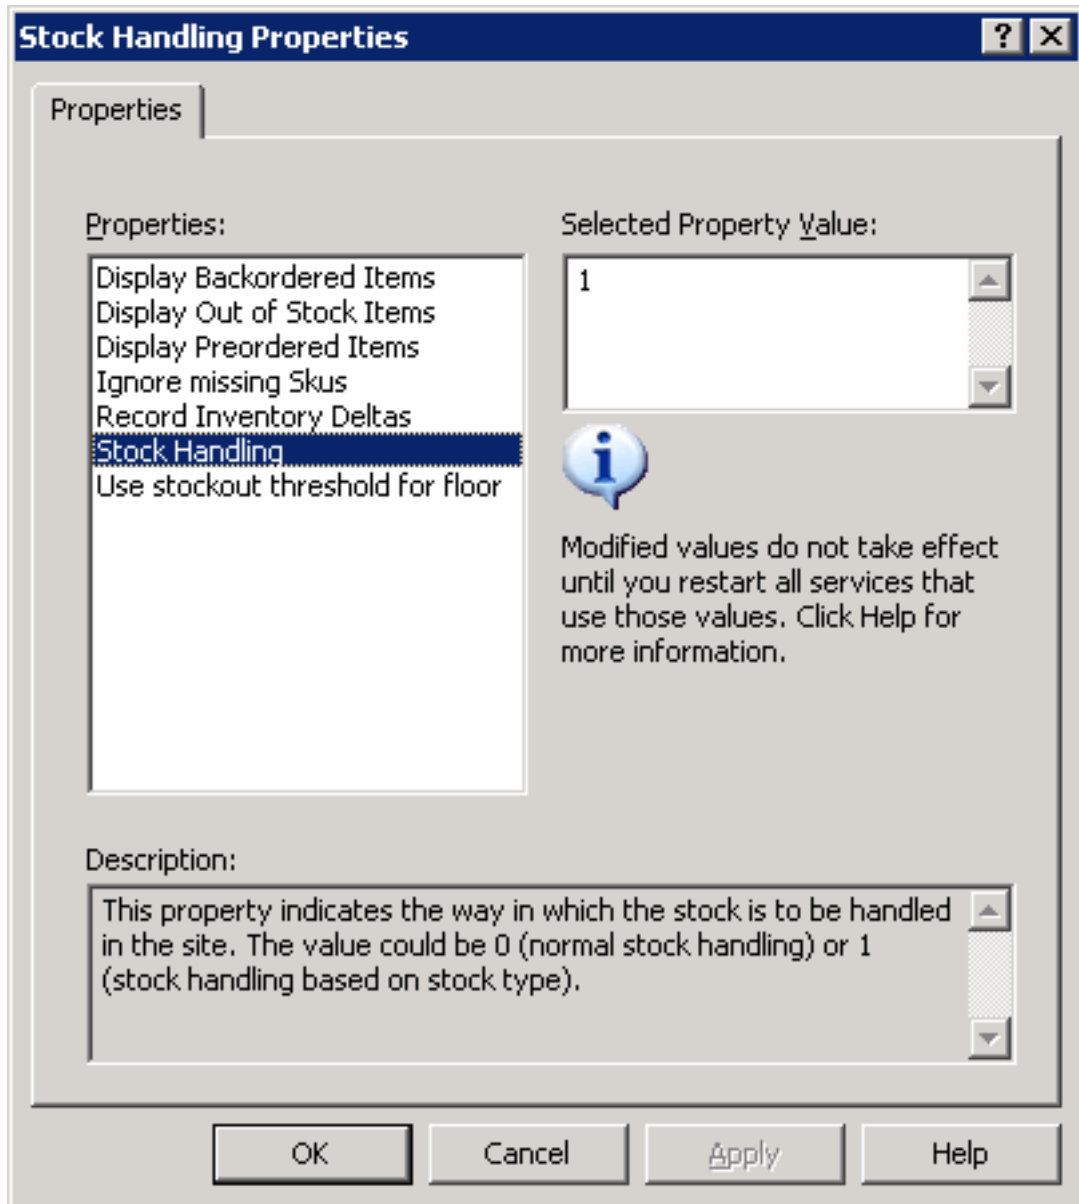

Figure 4-12
4. Change the Selected Property Value from 0 to 1 (Figure 4-12). This indicates that the Commerce Site uses special handling for SKUs, and will otherwise prevent back-orderable products from being reported as out-of-stock.